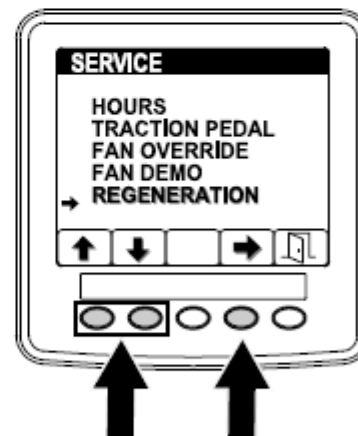

Figure 6
2. On the SERVICE menu, press button 1 or button 2 to navigate to the REGENERATION option, and press button 4 to select the REGENERATION entry (Figure 6).